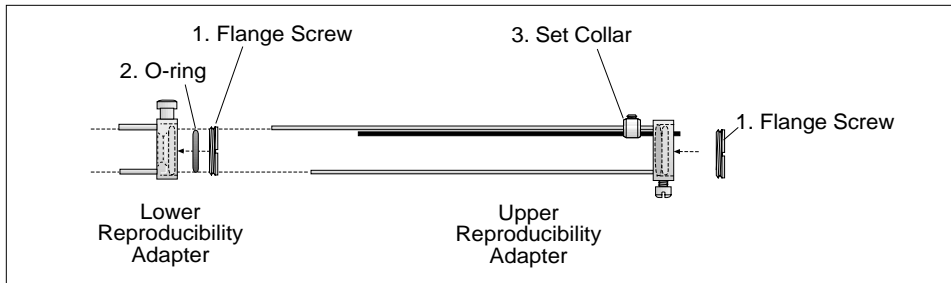

Figure 2
2. Separate the two halves of the Chaney adapter (Figure 2).